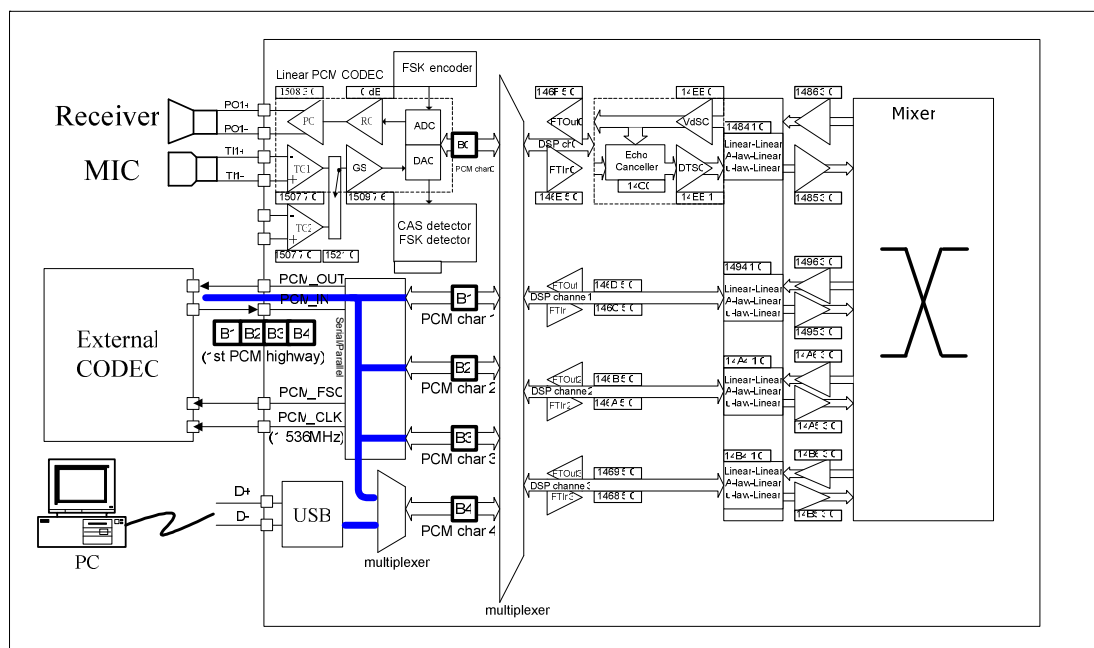

Figure 10-2 W681307 Speech Flow Block Diagram
- Routing diagram as below Figure 10-2 :